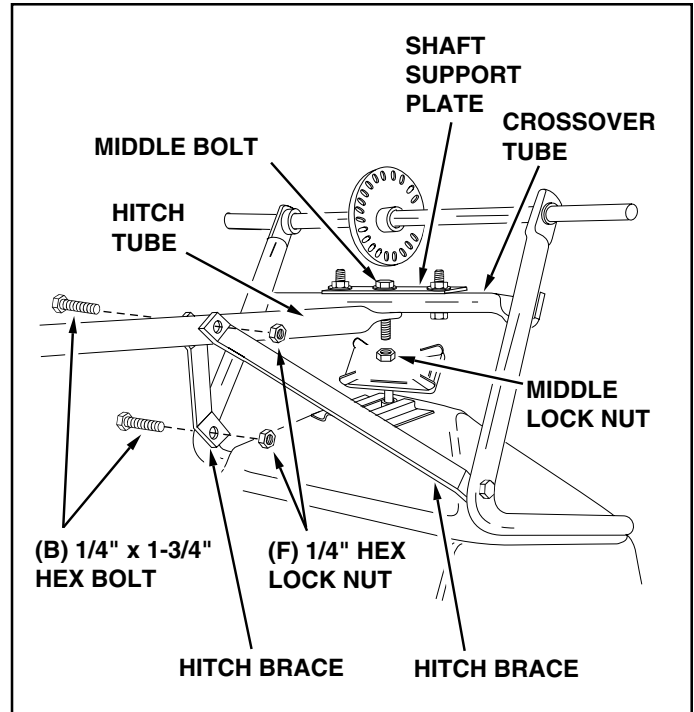

FIGURE 2
2. Assemble the two hitch braces to the inside of the hopper frame using a 1/4" x 1-3/4" hex bolt (B) and 1/4" hex lock nut (F) on each side. **DO NOT TIGHTEN YET.** See figure 2.
3. Remove the lock nut from the middle bolt in the crossover tube and shaft support plate. Leave the bolt in place. See figure 2.
4. Assemble the hitch tube onto the middle bolt and secure it with the same lock nut you removed. **DO NOT TIGHTEN YET.** See figure 2.
5. Assemble the two hitch braces to the hitch tube using a 1/4" x 1-3/4" (B) hex bolt and a 1/4" hex lock nut (F). **DO NOT TIGHTEN YET.** See figure 2.